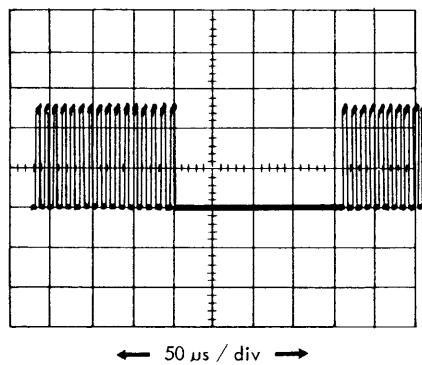

Figure 19. Clock Track Gap (1Zd)  $210 \pm 20 \mu$ s
15. Check the clock track gap (See Figure 19).
- The gap should be  $210 \pm 20 \mu$ s long (See Figure 19).